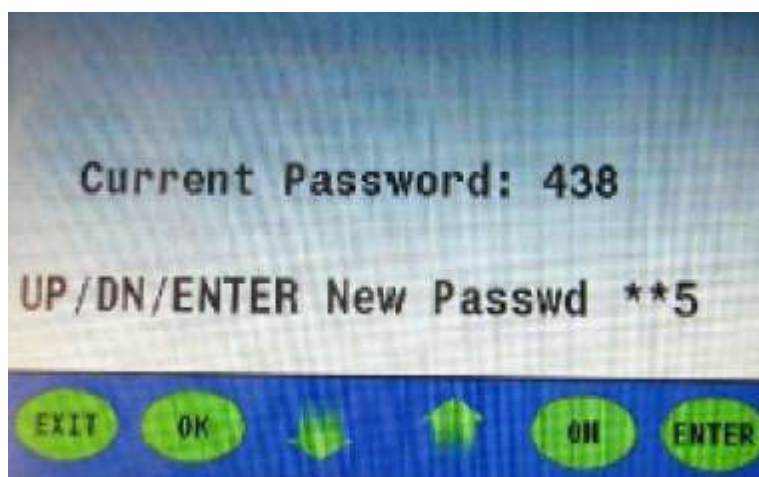

Figure 17
9. Press the **enter button** a (*) is inputted into the field for the second number. Now, the third digit, the last digit in the password sequence, will begin to blink (**figure 17**).